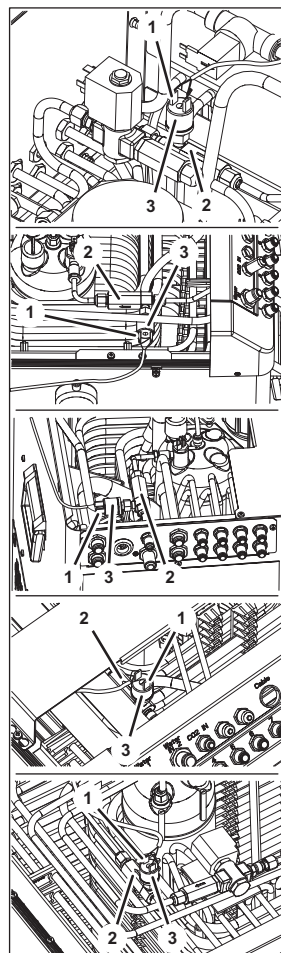

Figure 111
1. Disconnect the plugs (Figure 111/1) of the CO₂ pressure switch (Figure 111/3).
2. Turn the CO₂ pressure switch (Figure 111/3) and remove from the non-return valve (Figure 111/2).
3. Apply Loctite to the new CO₂ pressure switch (Figure 111/3).
4. Attach the new CO₂ pressure switch (Figure 111/3) to the non-return valve (Figure 111/2) by turning it.
5. Connect the plugs (Figure 111/1) of the CO₂ pressure switch (Figure 111/3).